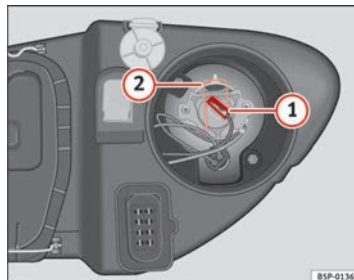

Fig. 190 Main beam headlights
- Remove connector ⇒ Fig. 190 ① from the bulb.
- Press the spring ⇒ Fig. 190 ② inwards and to the right.